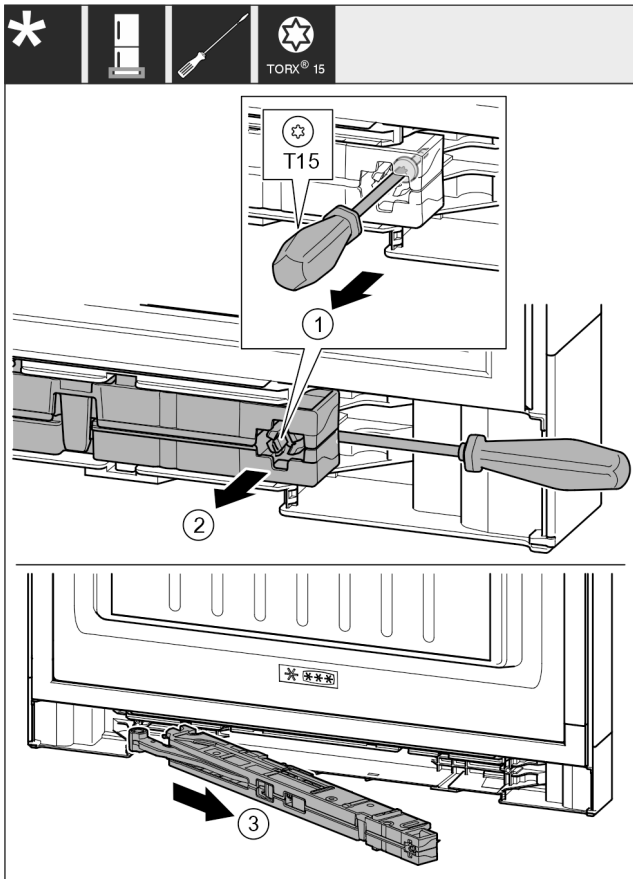

Fig. 17
- ▶ Undo the soft stop mechanism screw with a T15 screwdriver approx. 14 mm. Fig. 17 (1)
- ▶ Insert the screwdriver on the handle side behind the soft stop mechanism. Turn the unit forwards. Fig. 17 (2)
- ▶ Pull out the unit. Fig. 17 (3)